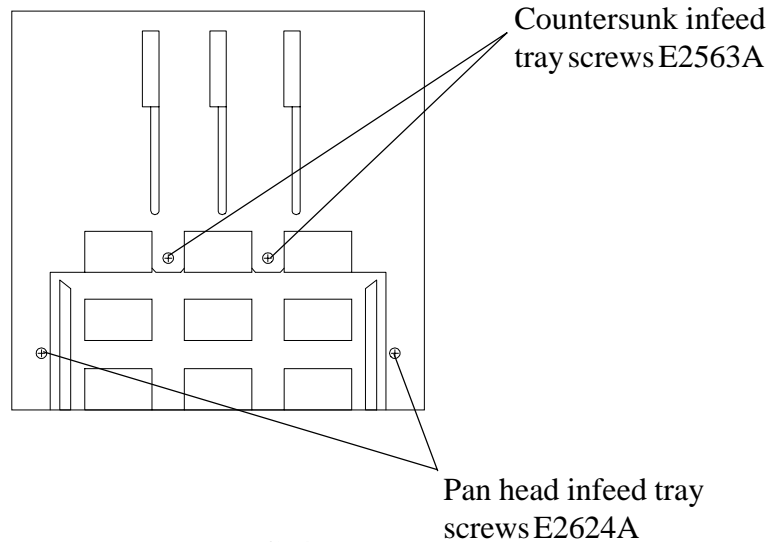

FIG. 4
4. Refit side covers. Assemble infeed tray to machine and retain with 2 Countersunk screws E2563A & 2 pan head screws E2624A, as shown shown in Fig. 4 below.